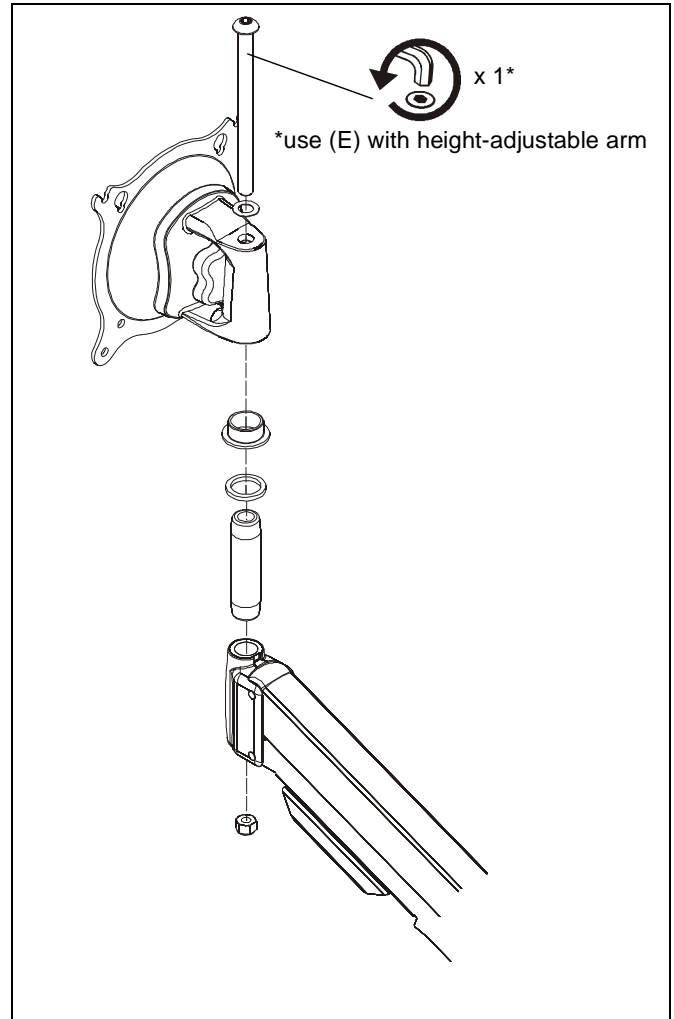

**Figure 2**
2. Loosen and remove nut at bottom of KSA-1019 assembly (A) and button head cap screw at top. (See Figure 2)